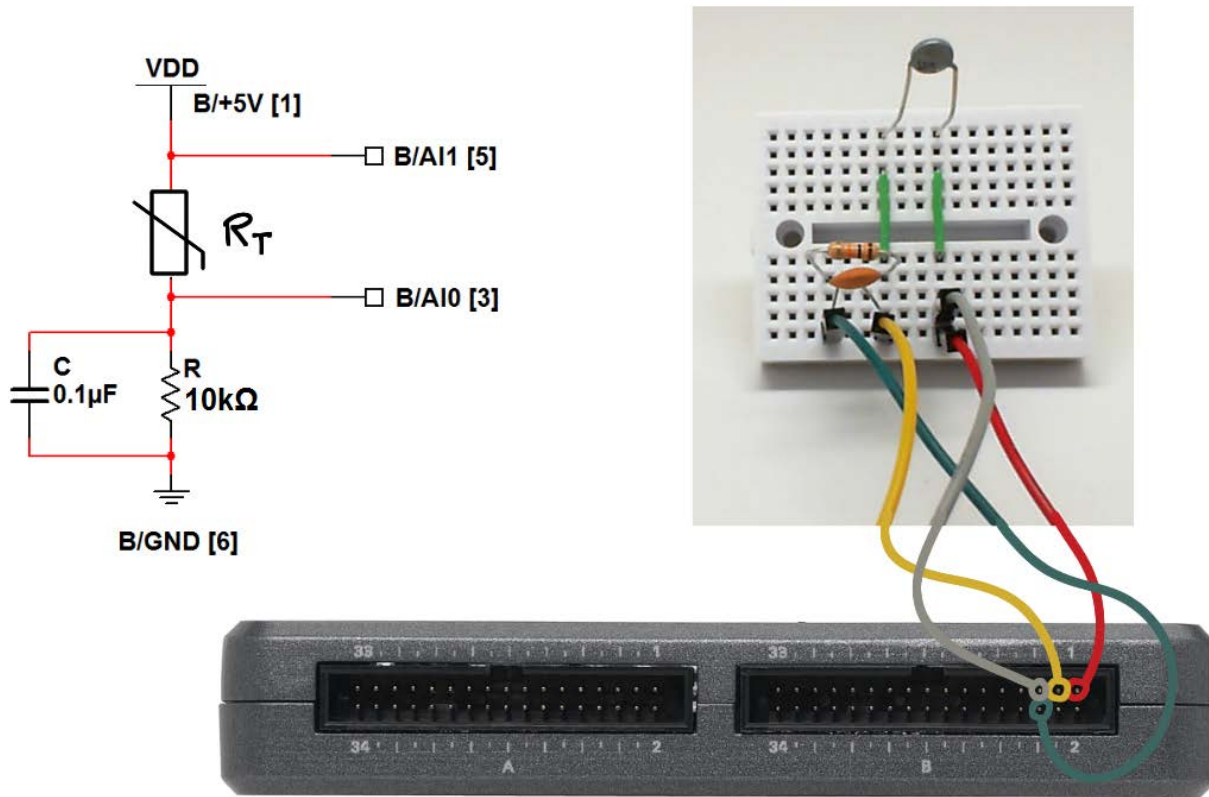

Figure 8.2: Demonstration circuit for thermistor: schematic diagram, recommended breadboard layout, and connection to NI myRIO MXF Connector B.
**Build the interface circuit:** Refer to the schematic diagram and recommended breadboard layout shown in Figure 8.2 on page 33. The interface circuit requires four connections to NI myRIO MXP Connector B (see Figure A.1 on page 233):